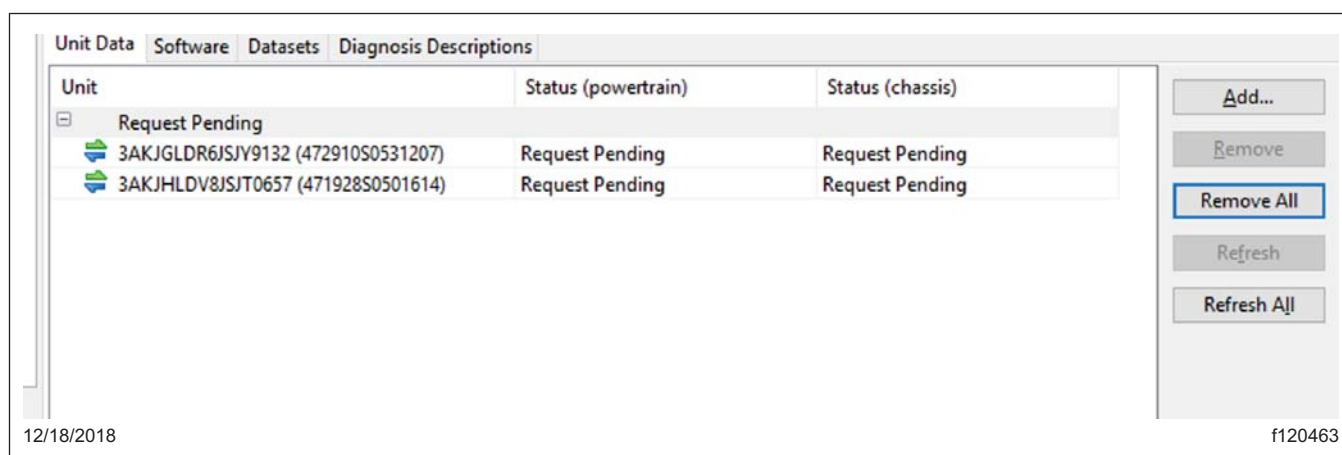

Fig. 2, Removing Pending Requests
3. Select "Program Device." If there are any items in the section "Request Pending" downloads, they should be removed. To remove them, select the "Request Pending" list item, then press the "Remove" button. See Fig. 2.